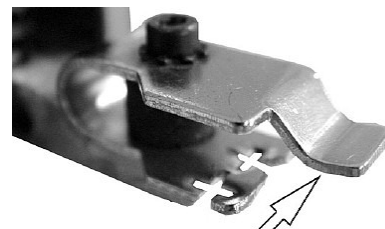

Fig. 6: Insert pinless blades
Step 4: Insert the knife and adapters into the machine (Fig.6). Now set the knife to the correct length.